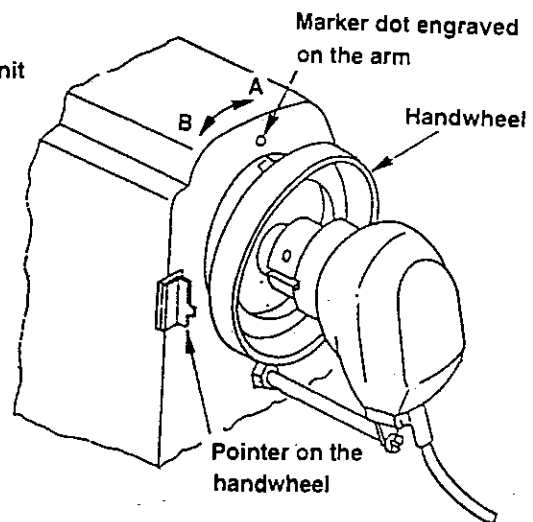

Fig. 3
<ol style="list-style-type: none"> 1. Set the stitch dial at the maximum value on the scale. 2. Set the dial for setting the amount of alternating vertical movement of the walking foot and presser foot to "1" on the scale. 3. Remove the rubber plug from the top cover. 4. Loosen clamping screw ❶ in the top feed arm through the hole in the top cover from which the rubber plug has been removed. (Fig. 2 illustrates the top feed arm after removing the top cover.) 5. Align the graduation "L" on the handwheel with the handwheel pointer. (Fig. 3) 6. In the state described in step 5, make the walking foot rest on the feed dog and make the presser foot come in contact with the throat plate. 7. Tighten clamping screw ❶ in the top feed arm. (Fig. 2) 	<ul style="list-style-type: none"> ☆ Improper stitch length may result when making the machine run at high/low speed. ☆ The lifting amount of the presser foot or the walking foot will be decreased. As a result, the material may not be fed smoothly. <p>5' If the graduations on the handwheel shift in the direction A from the handwheel pointer, the lifting amount of the walking foot will decrease and the lifting amount of the presser foot will increase. If the graduations on the handwheel shift in the direction B, the former will increase and the latter will decrease.</p>